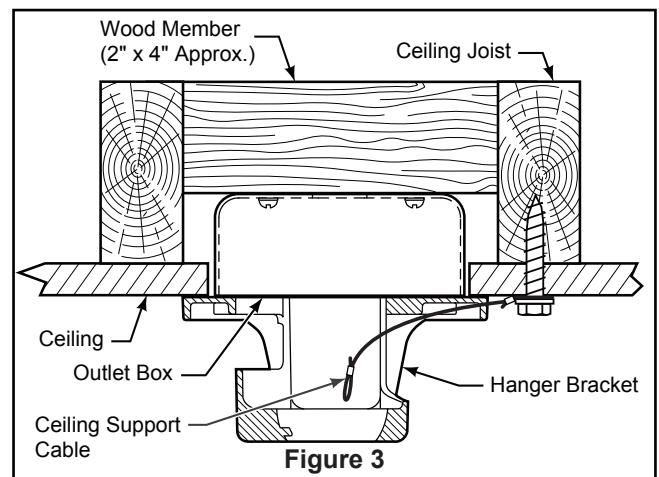

Figure 3
1. Securely attach the hanger bracket to the outlet box using the outlet box screws and washers supplied with the outlet box. (Figure 3)
2. Drill a 1/4" pilot hole into the building structure to prevent splitting or cracking with installation of the lag bolt. Using the 3/8" x 2" lag bolt and flat washer, attach safety cable to ceiling joist or wood structural member. The lag bolt will pass through the flat washer, safety cable loop, and into the building structure. (Figure 3) **NOTE:** Ceiling support cable cannot be secured to outlet box only, it must be directly secured to ceiling joist or structural member using the 3/8" x 2" lag bolt and flat washer. (Figure 3)